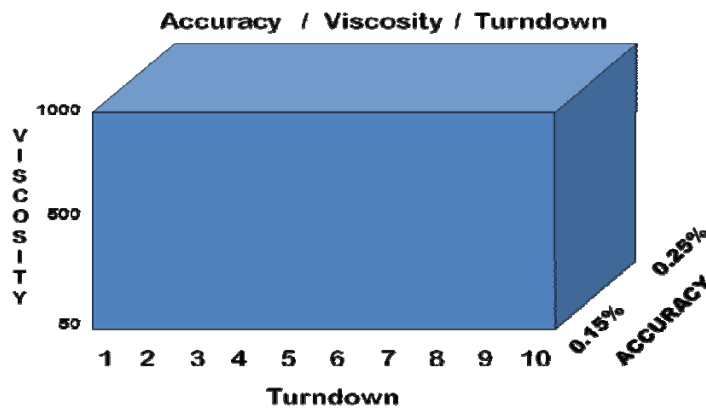

FIG 3
**Accuracy verses viscosity verses Turndown** – There is always confusion when we hear statements like +/- 0.15% linearity (accuracy), 10:1 turndown and maximum viscosity of some value, 500 cSt for example. So what does that all mean when you get to the real world of measurement? Each of these statements as a standalone value are correct, the meter can meet each specification, however, when we combine these requirements the total capability of the meter will change. Let's think of accuracy, turndown and viscosity as the three axes of a cube. (See figure 3 below)